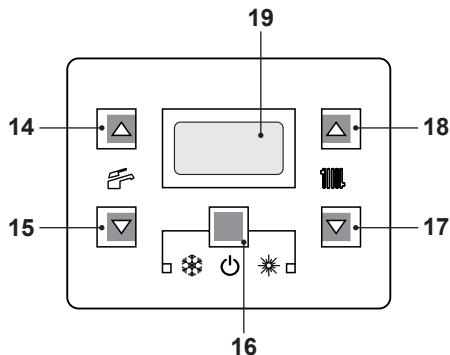
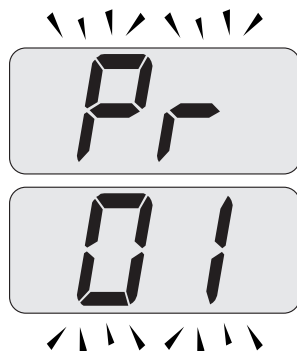
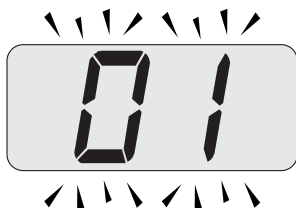

Fig. 8.31
Fig. 8.32
Fig. 8.33
- Enter the "programming mode" by sequentially pressing and holding in keys, 16 - 17 and then 18 (Fig. 8.31) for 10 seconds until the letters **Pr** that alternate with code **01** are displayed on the LCD display, indicating that "parameter 01" (Fig. 8.32) has been activated.
- Press keys 16 and 18 (Fig. 8.31) at the same time until the value of parameter 01 (65=ADVANCE 25C) is displayed on the LCD display (Fig. 8.33).
- Press keys 16 and 17 (Fig. 8.31) at the same time to exit without changing the value (return to the parameters list Fig. 8.32).
- Press sequentially keys, 16 - 17 and then 18 (Fig. 8.31) and hold in for 10 seconds to exit the "programming mode".